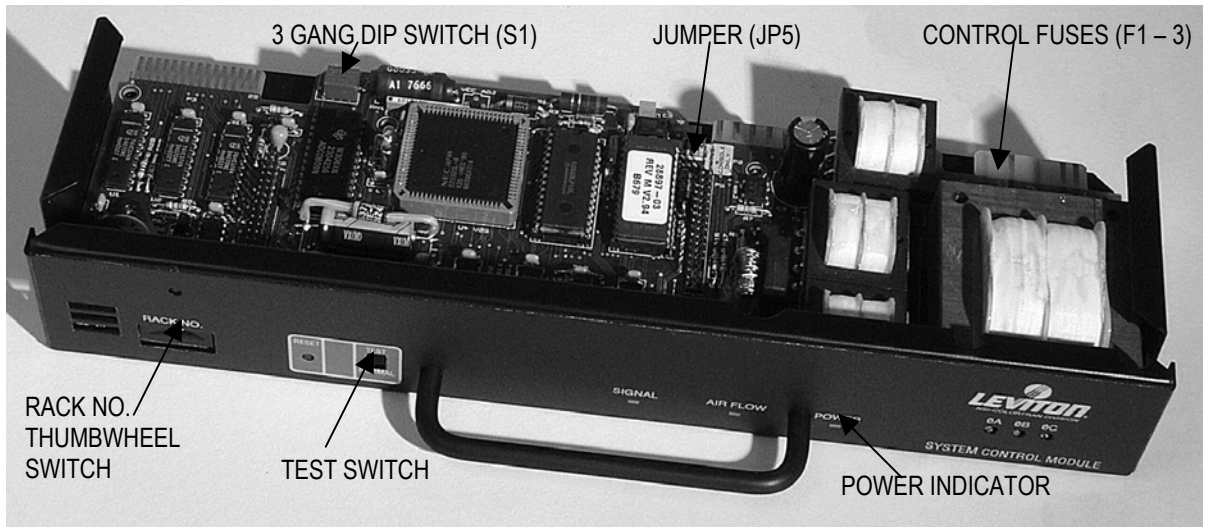

Figure 8 - Remote Control Module
- Set the 3 DIP switches labeled S1 on the printed circuit board (See Figure 8) as follows:
- Set the thumbwheel switch(es) on all TOPAZ 12 control modules according to Table III on next page. See Figure 8 (Pack 1 is usually the left-most pack).
- Apply power to the pack. Power indicator LED should be lit on the control module. If the LED is not lit or is flashing, at least one control fuse is blown or one power leg has no voltage present. Check the control fuses on the rear of the control module. Check the feeder wiring with a meter, correct the problem and restore power to the pack. See Figure 8.
- Switch the test switch on the control module to the TEST position. See Figure 8, page 7. This will turn on the fan.